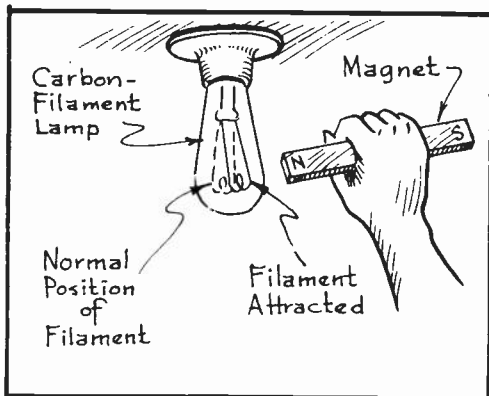

Fig. 1
2. - CONNECT ONE TEST LEAD TO THE POSITIVE OR (+) TERMINAL OF THE VOLTMETER AND A SECOND TEST LEAD TO THE OTHER VOLTMETER TERMINAL AS SHOWN IN FIG. 1.
3. - TOUCH THE TWO TEST POINTS TO THE TWO SIDES OF THE CIRCUIT UNDER TEST AS ALSO SHOWN IN FIG. 1 AND NOTE THE MOVEMENT OF THE METER NEEDLE AS YOU DO SO. THIS CONNECTION SHOULD BE COMPLETED FOR ONLY AN INSTANT SO AS TO AVOID DAMAGING THE VOLTMETER IN CASE THAT THE NEEDLE SWINGS OFF ITS SCALE TOWARDS THE LEFT OF THE ZERO MARK.
4. - SHOULD THE VOLTMETER NEEDLE SWING OFF ITS SCALE TOWARDS THE LEFT OF ZERO AS IN FIG. 2, THEN THE TEST INDICATES THAT THE POSITIVE OR (+) TERMINAL OF THE VOLTMETER IS CONNECTED TO THE NEGATIVE SIDE OF THE CIRCUIT UNDER TEST. ON THE OTHER HAND, IF THE METER NEEDLE SWINGS ACROSS ITS SCALE TOWARDS THE RIGHT OR IN ITS NORMAL DIRECTION, AS IN FIG. 1, THEN THE TEST INDICATES THAT
2. - NOW SLOWLY MOVE A PERMANENT MAGNET (EITHER A BAR OR HORSESHOE TYPE) TOWARDS THE LAMP AS ILLUSTRATED IN FIG. 1 AND CAREFULLY NOTE THE REACTION UPON THE LAMP FILAMENT.
3. - IF THE MAGNET ATTRACTS THE LAMP FILAMENT AS SHOWN IN FIG. 1, THEN THE TEST DEMONSTRATES THAT THE CIRCUIT IN QUESTION IS OF THE D.C. TYPE.